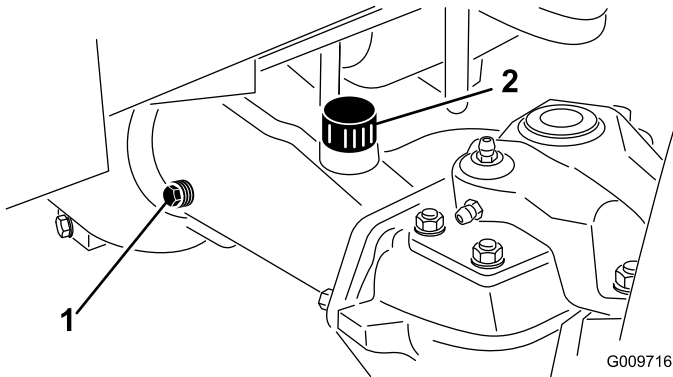

Figure 51
2. Remove a check plug from one end of the axle (Figure 51) and make sure that the lubricant is up to the bottom of the hole.
Note: If the level is low, remove the fill plug (Figure 51) and add enough lubricant to bring the level up to the bottom of the check plug holes.